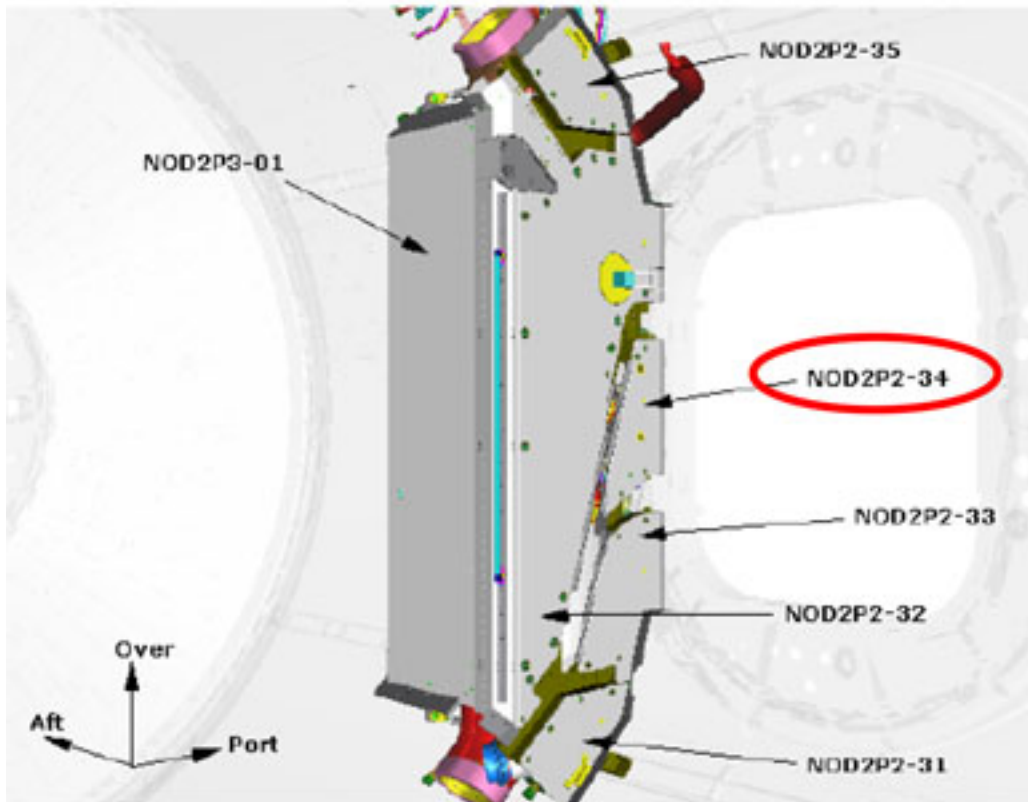

Figure 1. Node 2 Port Aft Closeout Panels.
- 1.1 Remove Closeout Panel, NOD2P2-34, Fasteners (four), (Driver Handle, 1/4" Drive; 5/32" Hex Head, 1/4" Drive). Refer to Figure 1.